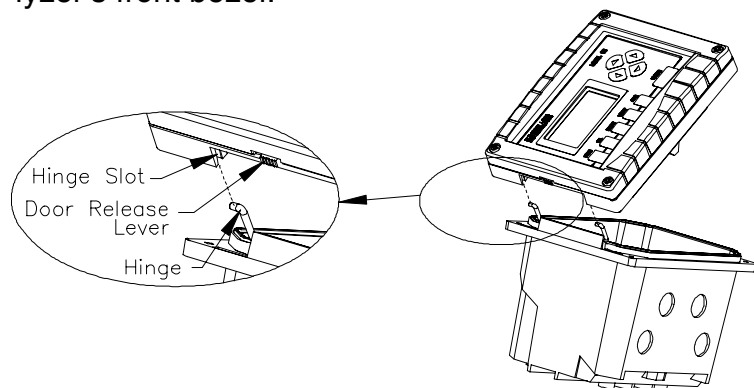

FIGURE 4-1 Analyzer Door Attachment Details
3. While holding the door, slide the door release lever (Figure 4-1) upward to release the door from the hinge.
##### To Attach Analyzer Door (Figure 4-1):